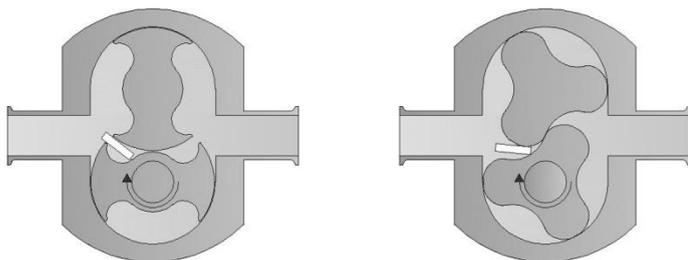

Figure 19 - Tighten the rotor bolt (bottom rotor)
- Use only the special tool (181) supplied to loosen and retighten. Both screws have a right-hand thread.
- Lock the rotors using a soft spacer (Figure 19) - a plastic block (180) is provided with the pump for this purpose.